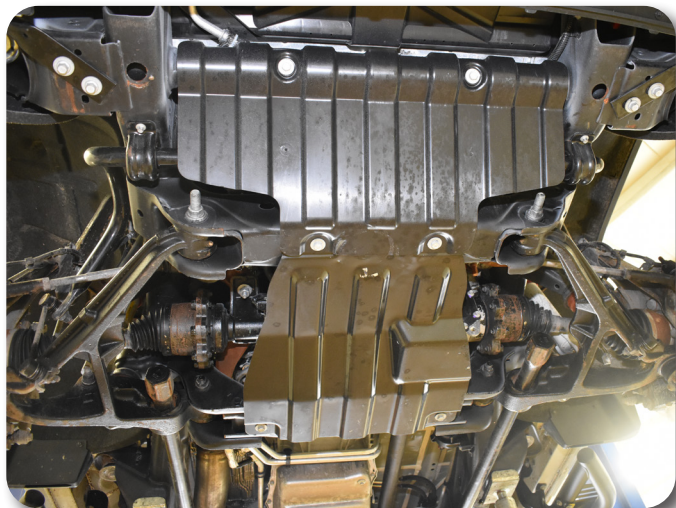

Figure 3
10. If equipped, remove the four bolts mounting the factory belly pan to the frame and the two bolts mounting the front skid to the cross member **Figure 3**. These will not be reused.